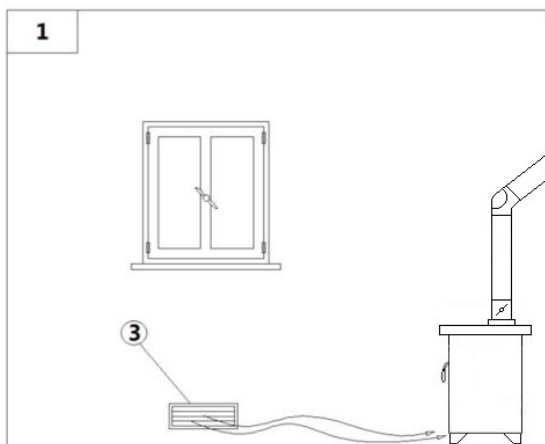
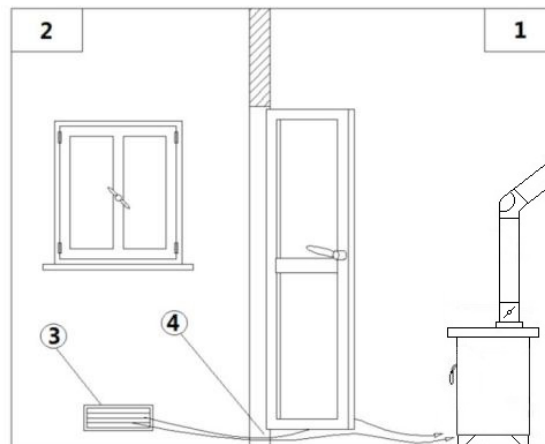

Fig. 6 - Direct air inflow
Fig. 7 - Indirect air inflow
LEGEND	Fig. 6 page 7-Fig. 7 page 7
- The air inflow from outside to the inner occurs directly, through an opening on the external wall of the room (see **Fig. 6 page 7**); otherwise it occurs indirectly by air suction from rooms adjacent to the one to ventilate (see **Fig. 7 page 7**).